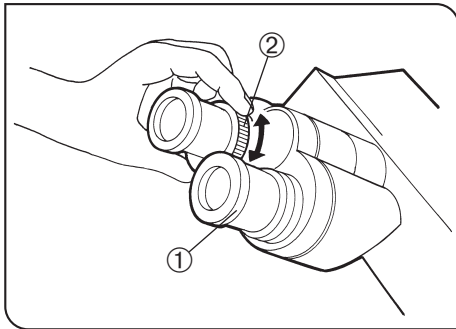

Fig. 39
6 Using Eyepieces Incorporating a Micrometer (Fig. 39)
1. Looking into the right eyepiece with your right eye, turn the top of the eyepiece ① so that the micrometer in the field of view looks sharpest (Fig. 39).
3. Looking into the left eyepiece with your left eye, rotate the diopter adjustment ring ② to bring the specimen into focus.